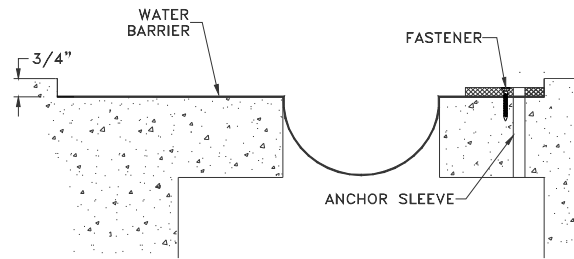

Figure 8
**STEP 16.** Place the pad back into its installed position. Ensure that mastic has been applied to the top surface of water barrier. Attach the pad to the concrete using the fasteners provided by the factory (see Figure 8). Ensure that the heads of the fasteners are flush with or below the top surface of the pad. Repeat the applicable procedures in Step 11 through Step 16 for each successive section of the 3" wide pad.